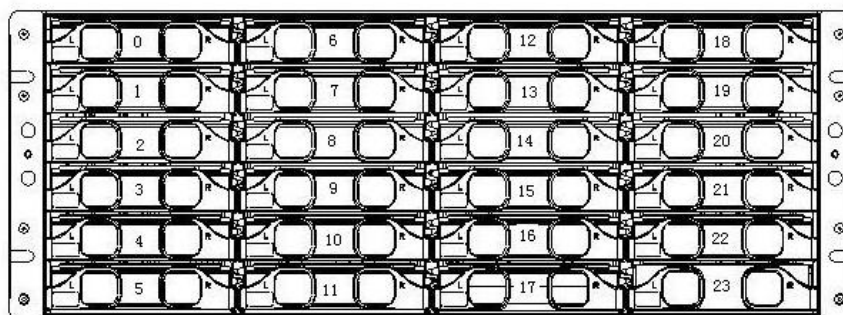

Figure 4-6 Full configured disks
(3) Repeat the steps above to install the rest of disks. As shown in Figure 4-6.